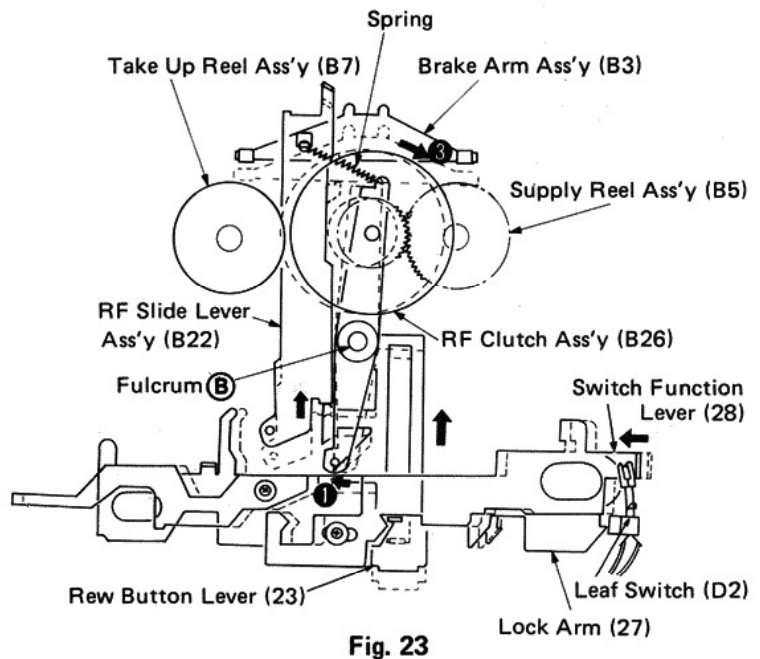

Fig. 23
- 1 When the REW button is pressed, the rewind button lever (23) and the switch function lever (28) are locked by the lock arm (27).
- 2 The leaf switch (D2) is turned on by the switch function lever (28) and the motor begins to run. In this state the RF clutch assembly (B26) also begins to rotate.
- 3 Since the RF slide lever assembly (B22) is pushed by the rewind button lever (23), the brake arm assembly (B3) uncouples from the supply reel (B5) and the take-up reel (B7) to release the brake. (Fig. 23)
- 4 When the rewind button lever (23) is pushed forward, the RF clutch assembly (B26) revolves around the fulcrum ❷ in direction ❶, thus causing its opposite side to move in ❸ direction and mesh with the gear of the supply reel assembly (B5). Then the supply reel (B5) rotates to assume the REW mode. (Fig. 23)